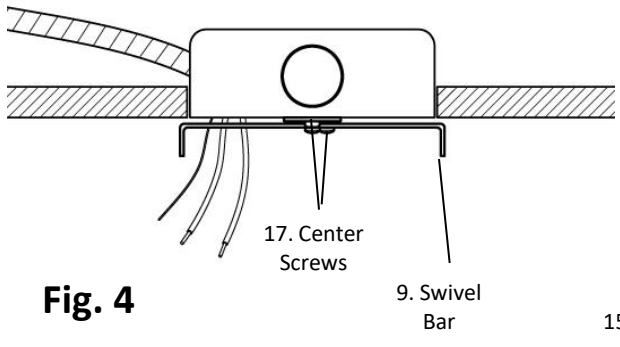

Fig. 4
3. Pull the power supply wires out from the Outlet Box (#3), and mount the Mounting Bracket (#4) to the Outlet Box (#3), using the Bracket Mounting Screws (#5). (Fig. 4)
4. Turn the Swivel Bar (#9) to the desired position, keeping in mind that it will determine the final orientation of the Fixture itself. Tighten both Center Screws (#17). (Fig. 4)